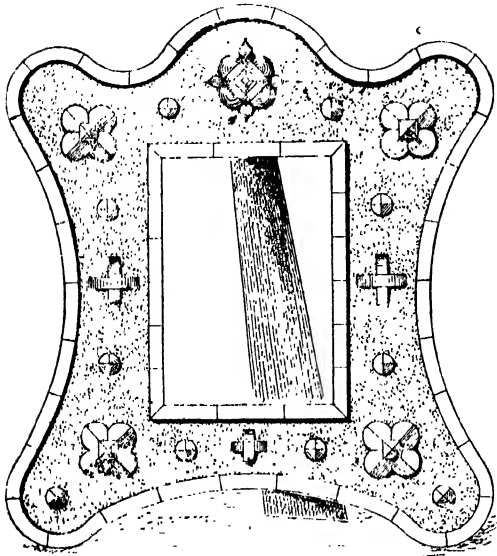

Fig. 216.—Photograph Frame Ornamented with Corks.
**Ornamental Cork Work : Photo Frames.**—Fig. 216 shows a simple pattern applied to the decoration of a photo frame. An old, well-worn wooden or leather frame may be used for the foundation, or any plain piece of wood may be cut to a suitable ornamental shape by means of a fret-saw. At the head a kind of floral ornament is given, made up of a pyramid, half-rounds, points, etc., whilst in each of the four